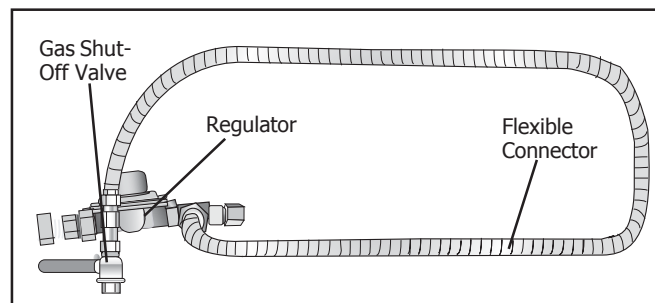

Figure 5: Flexible Connector Method
**Flexible Connector Method** (see Figure 5, this page)